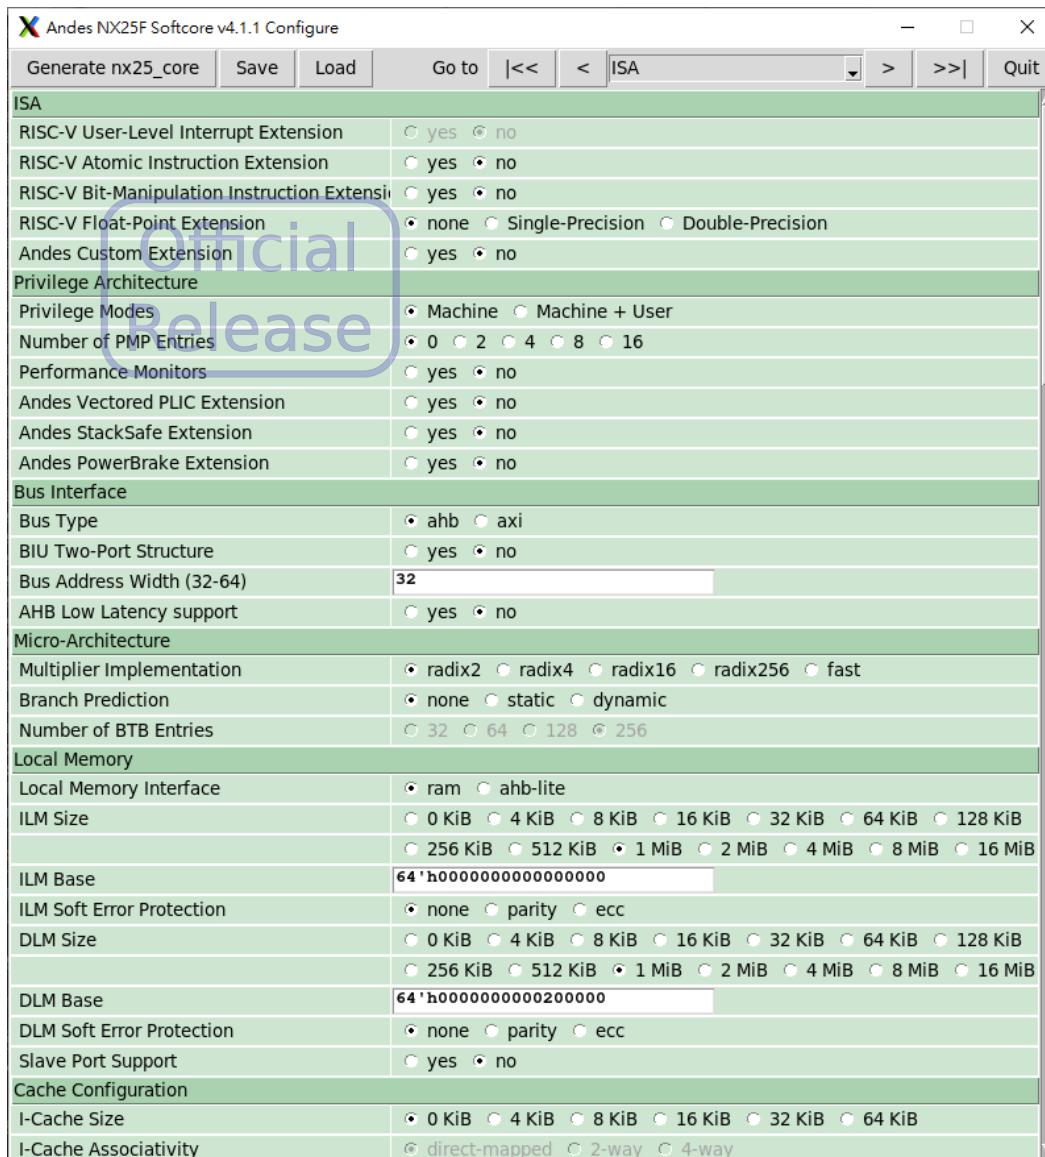

Figure 6: nds-softcore-config Screenshot
Figure 6 shows a screenshot of the tool. The “Save” button saves your options so that it could later be loaded into the tool. The “Generate nx25_core” button configures the NX25(F) processor with the selected options. By clicking this button, the following files are generated and overwritten. If required, back up the files before re-configuring the processor.
- Top module of the NX25(F) processor with the selected options.
- Top module of the NX25(F) processor with the selected options and all required SRAM cells.
- Core design of the NX25(F) processor.
- Sample CPU subsystem that instantiates the NX25(F) processor. This subsystem is for the AE350 platform.